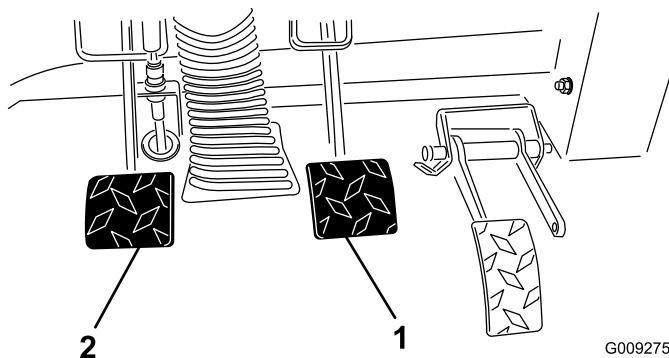

Figure 60
2. Lift up on the brake pedal (Figure 60) until it contacts the frame.